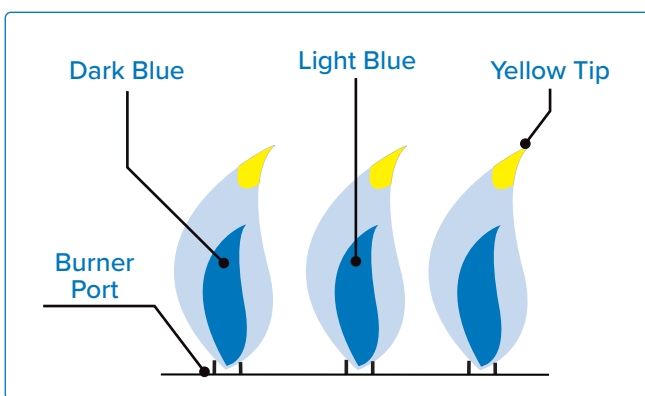

Fig. 30
- Too little air will cause yellow, sooty, lazy flames (**Fig 30**).